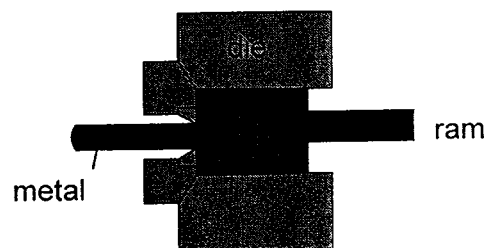

Figure 5
16. Figure 5 shows a typical metal forming process to produce metal rods. What is the process?